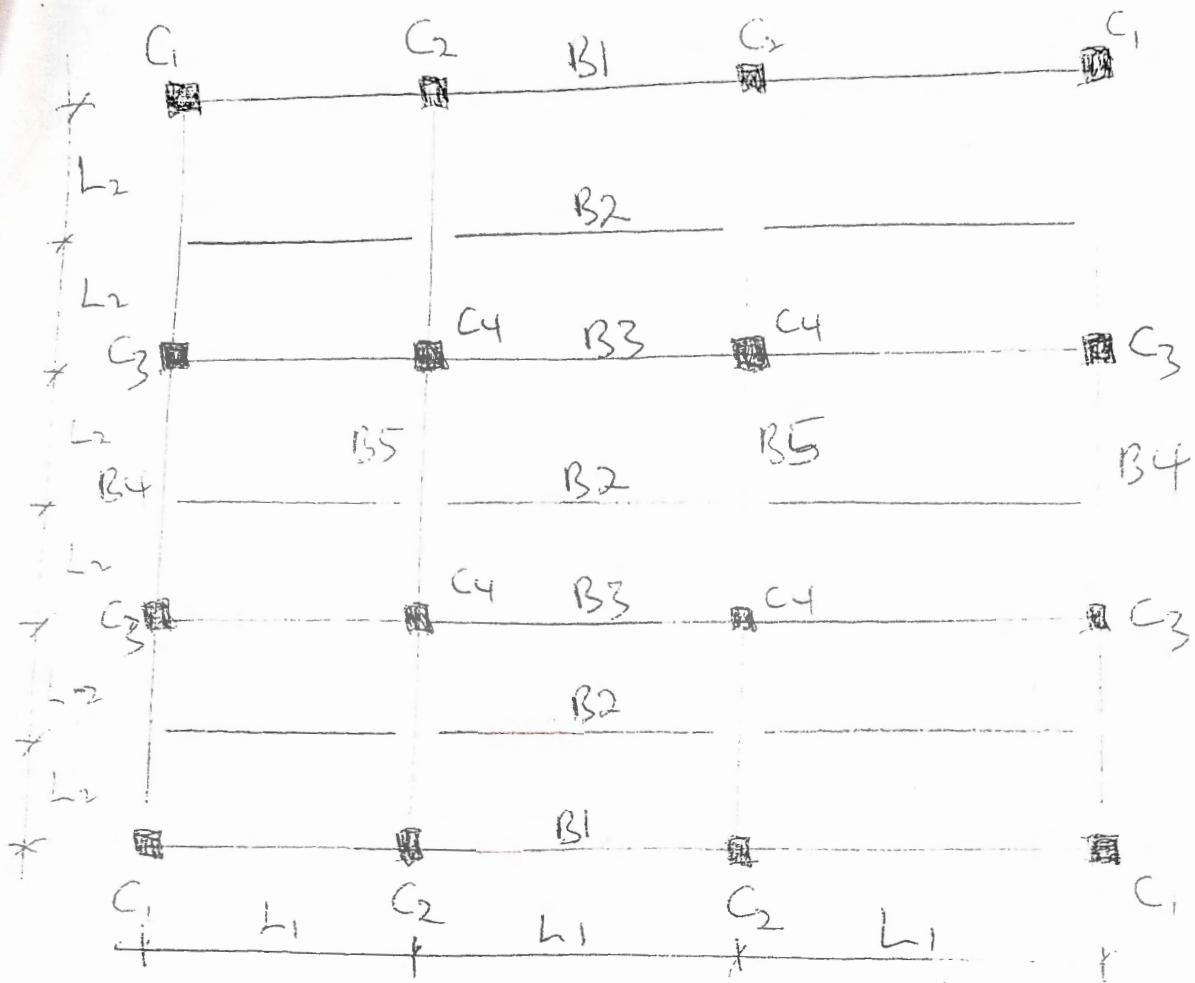

Figure Q5
5. Figure Q5 shows the structural plan of a building. Design the slab if its thickness is 200mm, and loads due to partitioning and finishes are 1.5 kN/m^2 and 1.0 kN/mm^2 respectively. Take $f_{cu} = 25\text{ N/mm}^2$, $f_y = 460\text{KN/mm}^2$, usage of the building is classrooms, and cover = 25mm. $L_1 = 9\text{ m}$, $L_2 = 4\text{ m}$; cover – 20mm; diameter of reinforcement – 12 mm. **(25marks).**